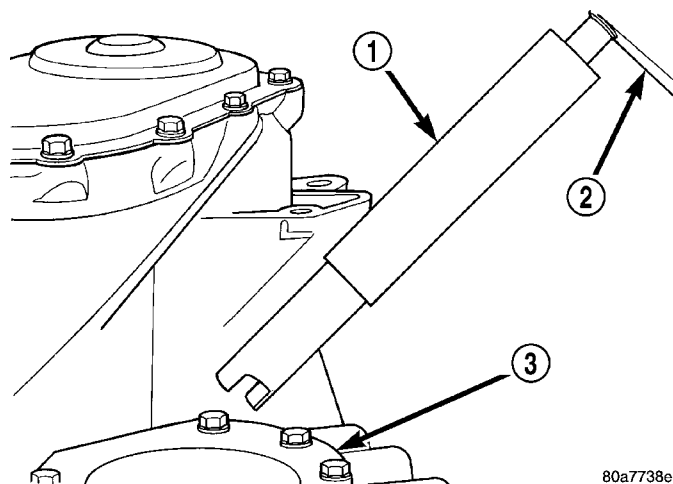
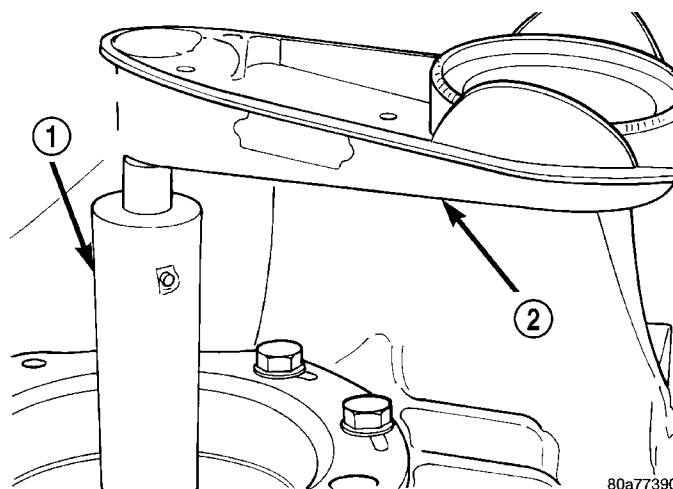

Fig. 203 Tool L-4436 and Torque Wrench
Fig. 204 Checking Differential Bearings Turning Torque
(1) Position the transaxle assembly vertically on the support stand, differential bearing retainer side up.
(2) Install Tool L-4436A into the differential and onto the pinion mate shaft (Fig. 203).
(3) Rotate the differential at least one full revolution to ensure the tapered roller bearings are fully seated.
(4) Using Tool L-4436A and an inch-pound torque wrench, check the turning torque of the differential (Fig. 204). **The turning torque should be between 5 and 18 inch-pounds.**
(5) If the turning torque is within specifications, remove tools. Setup is complete.
(6) If turning torque is not within specifications proceed with the following steps.
(7) Using Tool L-4436A and an inch-pound torque wrench, recheck the turning torque of the differential (Fig. 204). **The turning torque should be within 5-18 inch-pounds.**
(9) Using the end play measurement that was determined, add 0.18mm (0.007 inch). This should give you between 5-18 inch pounds of bearing preload. Refer to the Differential Bearing Shim Chart to determine which shim to use.
(10) Remove the differential bearing retainer. Remove the bearing cup.
(11) Install the oil baffle. Install the proper shim combination under the bearing cup.
(12) Install the differential bearing retainer. Seal the retainer to the housing with Mopar® Silicone Rubber Adhesive Sealant. Torque bolts to 28 N·m (250 in. lbs.).
(13) Using Miller Special Tool L-4436-A and an inch-pound torque wrench, check the turning torque of the differential (Fig. 204). The turning torque should be between 5-18 inch-pounds.